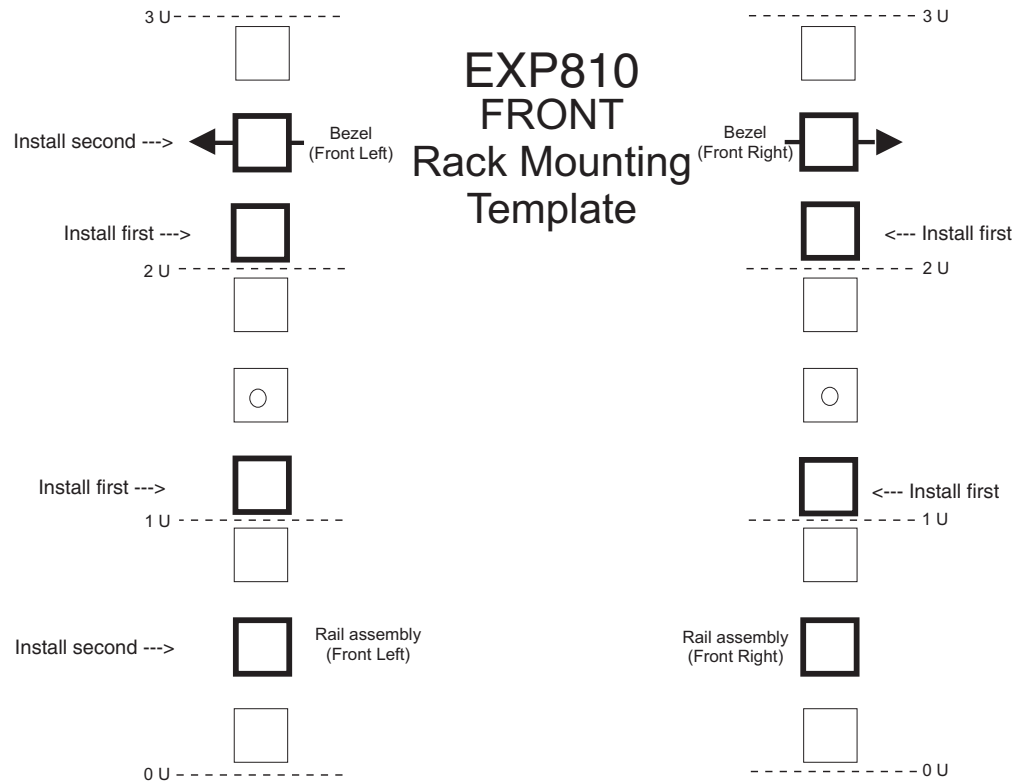
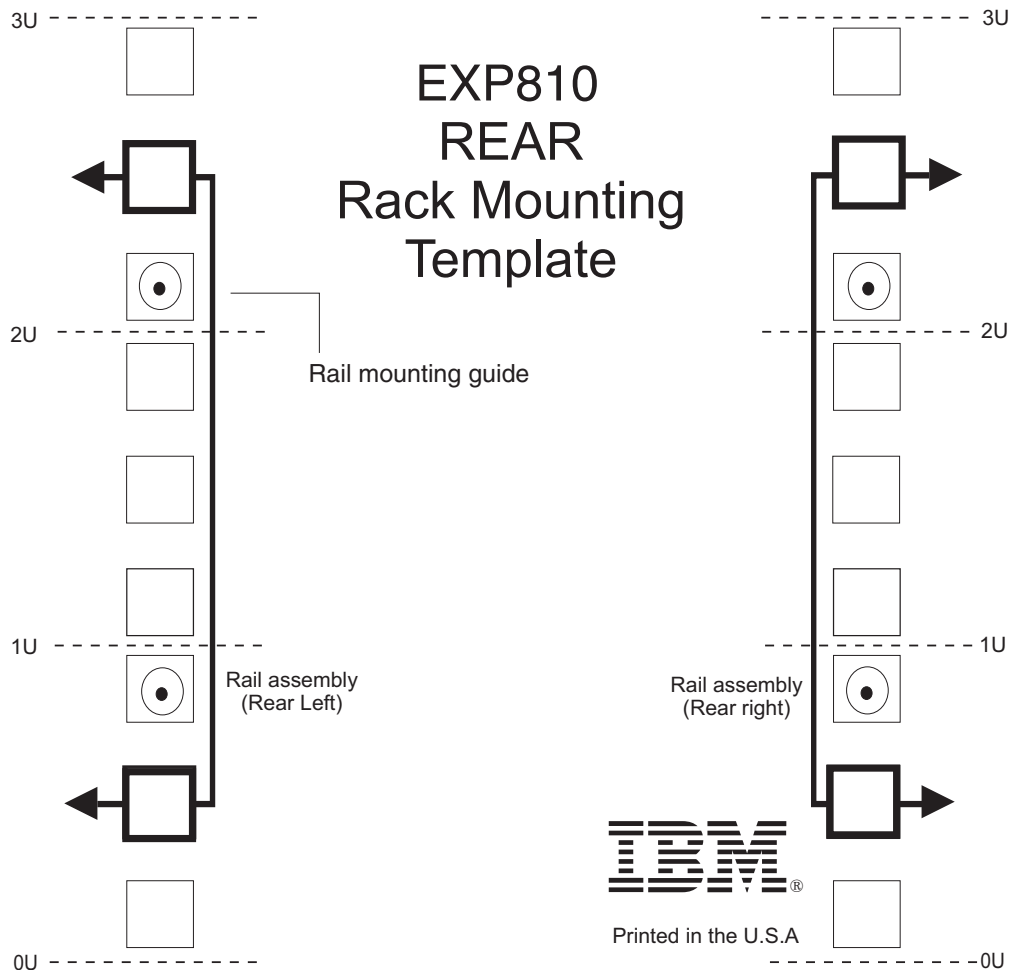

Figure 15. Front rack mounting template
Figure 16. Rear rack mounting template
Use the following templates (Figure 15 and Figure 16 on page 32) to identify the proper locations for inserting M5 screws when mounting the support rails and EXP810 to a rack. The locations for the M5 screws are highlighted in the templates.
**Attention:** Use the rack mounting template provided in Figure 15 on page 31 and Figure 16 on page 32 to locate the proper rack mounting holes for installing the support rails into the rack.
- Hold the back of the rail against the inside of the rack-mounting flange. Make sure the rail mounting guide pins are in the correct holes. See Figure 16 on page 32 for illustration.
**Note:** Be sure to install the screws labeled *install first* in Figure 15 on page 31.